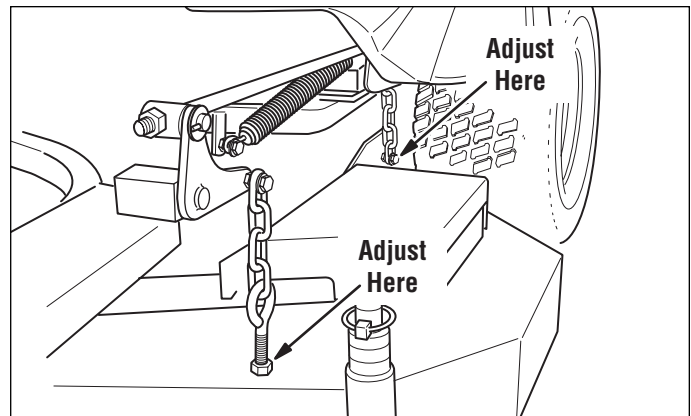

Figure 17. Deck Level Adjustment
4. Adjust the front eyebolts until the chains are tight and the deck is still resting on the 2 x 4's. Tighten jam nuts. See Figure 17.
5. Loosen the nuts and allow the rear of the deck to rest on the 2 x 4's and 1/4" spacers. Slide the chains in the slots until the chains are tight and tighten the nuts. See Figure 17.